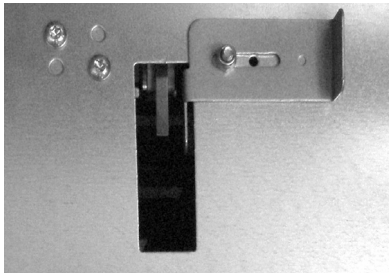

Fig. 6: Upper cover plate when using a water collecting container
2. Loosen the screw on the top cover plate in front of the recess and slide the cover plate in front of the recess (Fig. 6 and 7, page 14). Tighten the screw again (Fig. 6 and 7, page 14). Tighten the screw again.